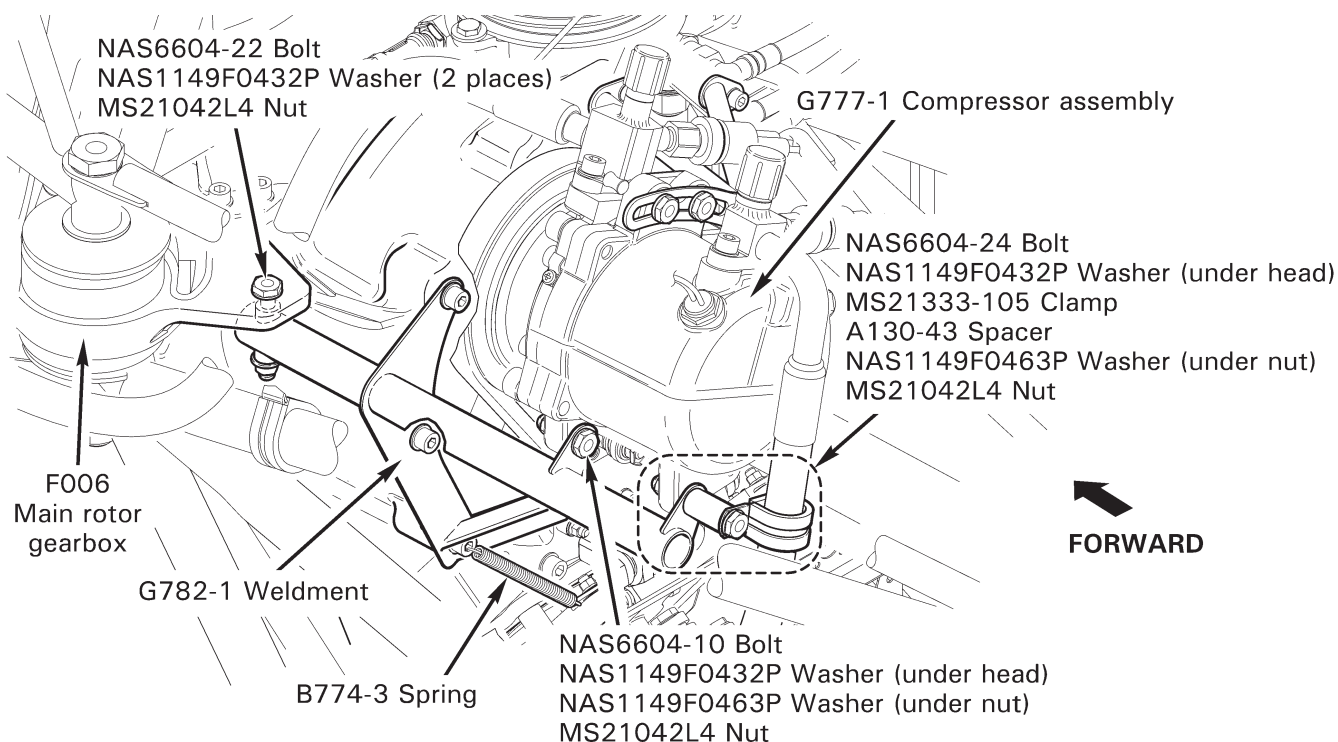

FIGURE 1-1 ASSEMBLY INSTRUCTIONS FOR R66 HELICOPTER CRATED FOR EXPORT
- a. Refer to Figure 1-1. Remove shipping supports (ty-raps, foam, tape, etc.) from G777-1 compressor assembly. Install hardware securing G782-1 mount weldment to main rotor gearbox. Standard torque hardware per § 20-32 and torque stripe per Figure 5-1. Hook B774-3 spring in drilled hole of NAS1352-4H14 screw. Verify security.
- b. Refer to Figures 1-1 and 1-2. Verify B173-5 V-belt is in good condition. Fit belt around G779-1 pulley and compressor pulley, and install hardware securing compressor to G782-1 mount weldment. Standard torque bolts per § 20-32.